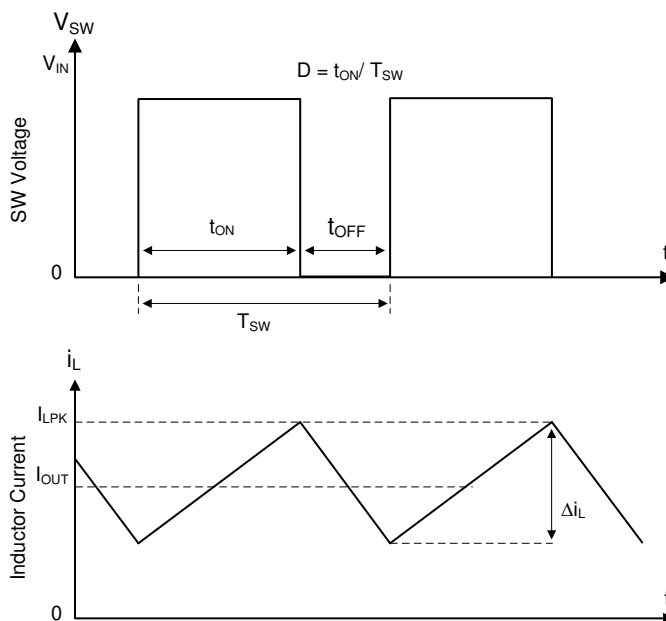

Figure 6-1. SW Node and Inductor Current Waveforms in Continuous Conduction Mode (CCM)
The following operation description of the TPSM843521 refers to the functional block diagram and to the waveforms in Figure 6-1. The TPSM843521 is a synchronous buck converter with integrated high-side (HS) and low-side (LS) MOSFETs (synchronous rectifier). The TPSM843521 supplies a regulated output voltage by turning on the HS and LS NMOS switches with controlled duty cycle. During high-side switch on time, the SW pin voltage swings up to approximately V_{IN} , and the inductor current, i_L , increases with linear slope $(V_{IN} - V_{OUT}) / L$. When the HS switch is turned off by the control logic, the LS switch is turned on after an anti-shoot-through dead time. Inductor current discharges through the low-side switch with a slope of $-V_{OUT} / L$. The control parameter of a buck converter is defined as Duty Cycle $D = t_{ON} / t_{SW}$, where t_{ON} is the high-side switch on time and t_{SW} is the switching period. The converter control loop maintains a constant output voltage by adjusting the duty cycle D . In an ideal buck converter where losses are ignored, D is proportional to the output voltage and inversely proportional to the input voltage: $D = V_{OUT} / V_{IN}$.